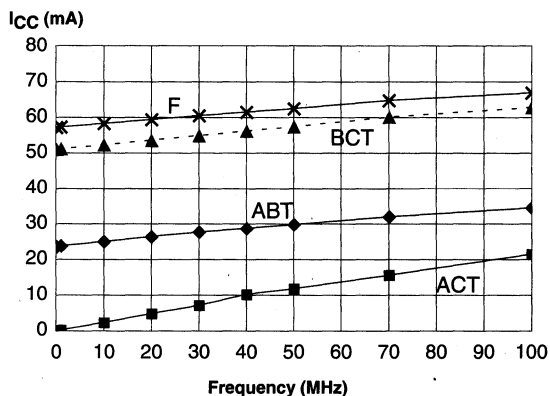

Figure 2. I_{CC} vs Frequency (One Switching, Unused Outputs Low)
The choices available from Texas Instruments for high speed bus-interface ranges from standard bipolar (F) to advanced CMOS (ACL/ACT) to state-of-the-art BiCMOS (BCT) and advanced BiCMOS (ABT). Figures 2–4 show current consumption comparisons of '244 functions for these technologies across frequency. As expected, the bipolar device consumes more current than the CMOS device at lower frequency, but as frequency increases this relationship no longer holds true. In fact, there exists a region in the frequency range where the CMOS device will consume more current than the bipolar device. The point at which they are equal is referred to as the *cross-over frequency*. Notice the low frequency where the cross-over point for ABT and ACT occurs.